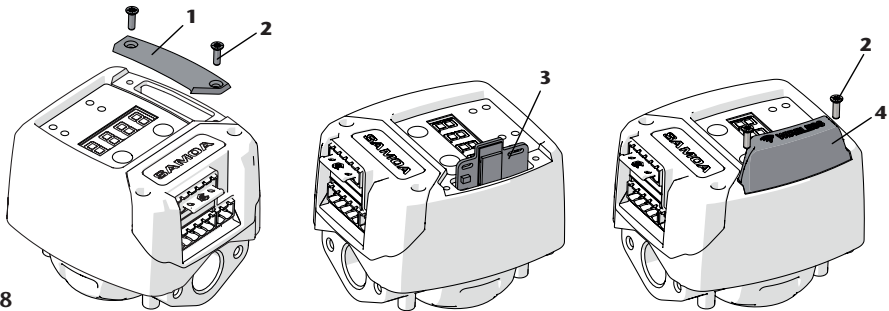

Fig. 8
2. Remove the plastic cover (1) unscrewing the screws (2).
3. Insert the wireless PCB kit (3) in the socket as it is shown in figure 8. Pay attention to PCB orientation.
4. Mount the new provided cover (4) with the two screws (2).